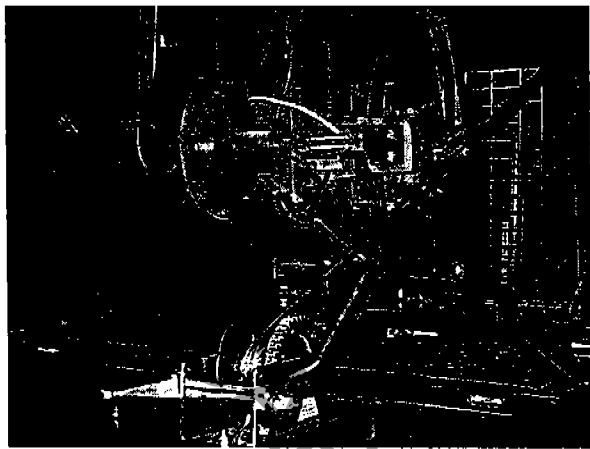

FIGURE 8.4
- Use the hoist to release arms and counterweights as indicated on fig. 8.4.
- Per sganciare bracci e contrappesi usare il paranco come da foto fig. 8.4
- In order to line up the counterweights with the fixing points situated on the arms use the hoist as indicated on the picture fig. 8.4
usare il paranco come da foto fig. 8.4